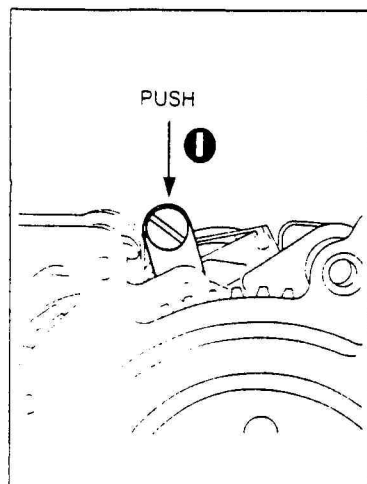

Fig. 8
2. Push the wind-up stopper lever ① to release the stopper, and wind the crank knob up. (See Fig. 8.)